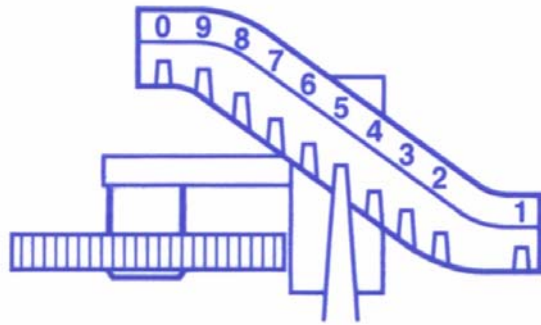

FIGURE 1
- 1) Set price wheels by positioning and fully engaging range arms. (see Figure 1).